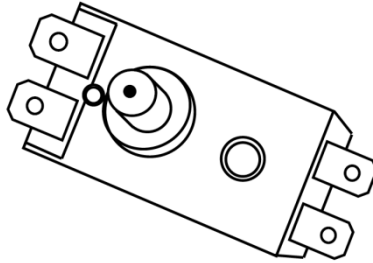

Fig. 7
-Press the button located in the center of the thermal switch (round shape, near the heating element) until you hear a click, see Fig. 7;